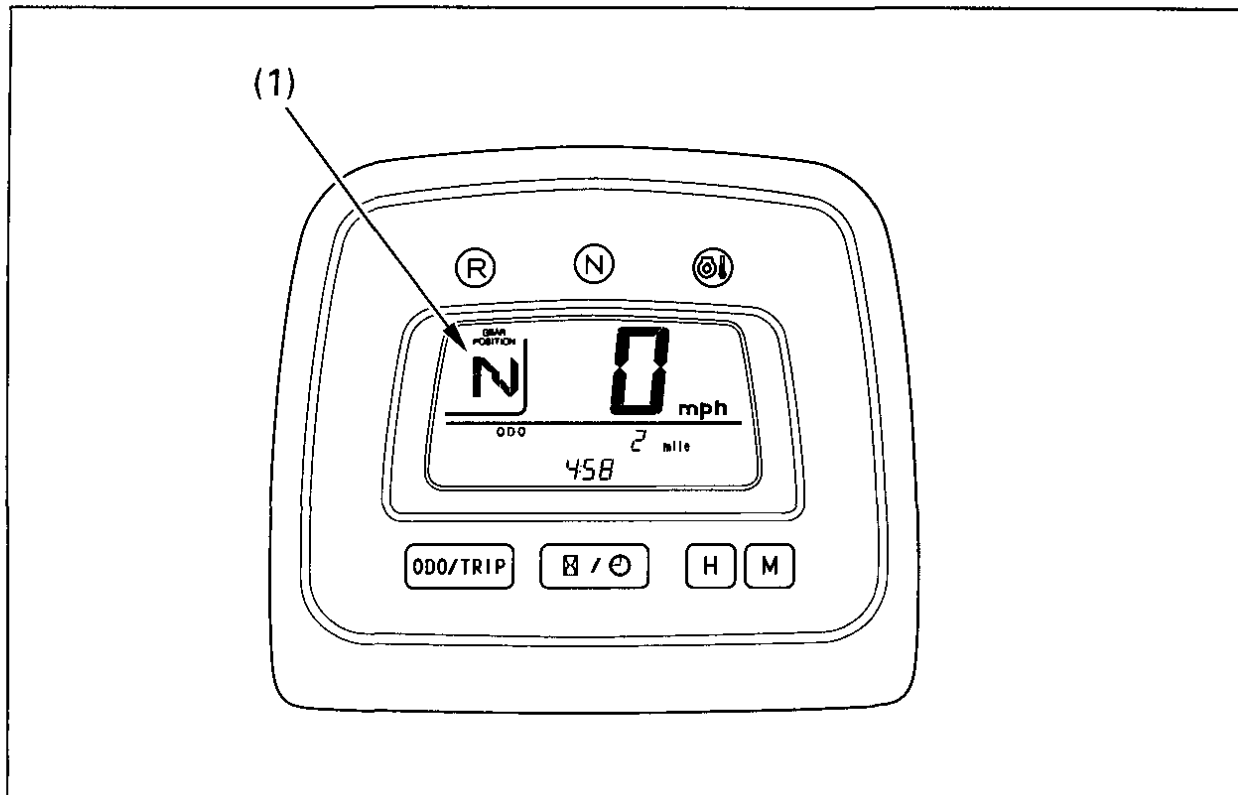

Fig. 2-16 (1) Gear position indicator
The gear position indicator (1) (Fig. 2-16) shows the gear position when the ignition switch is in the ON (I) position and the engine is running.